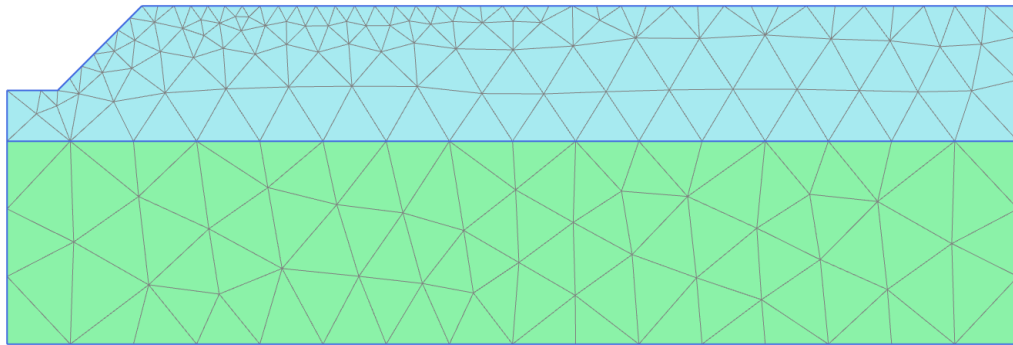

Figure 166: The generated mesh
5. Click the **View mesh** button  to view the mesh which is shown in Figure 166 (on page 190).